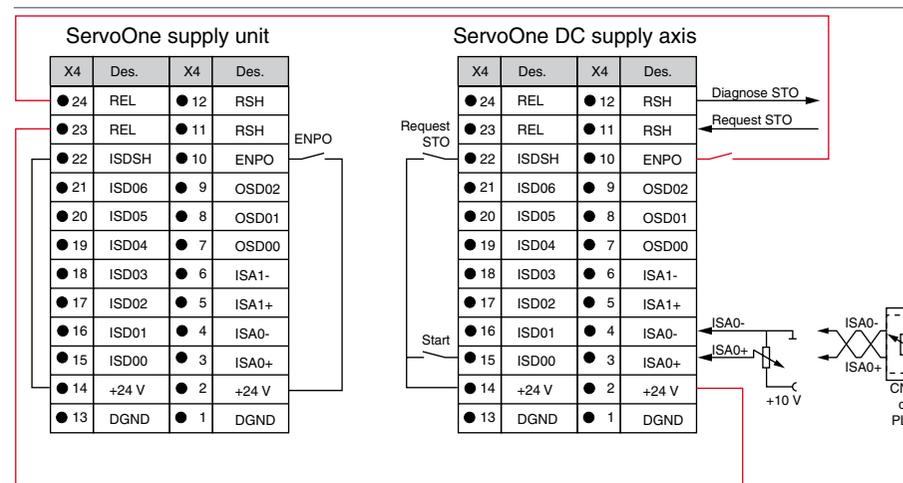

Figure C.1 ServoOne multi-axis system lock
1.	Wire the supply unit with the connected DC axis controllers as shown in figure C.1.